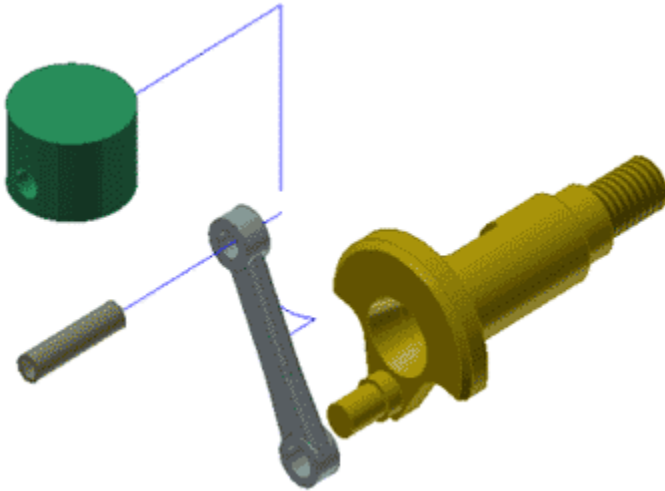

Figure 16: Rotated view for crankshaft sequences.
7. Click the upper-right arrow. Right-click and select Done. Your view should match the one shown in Figure 16.